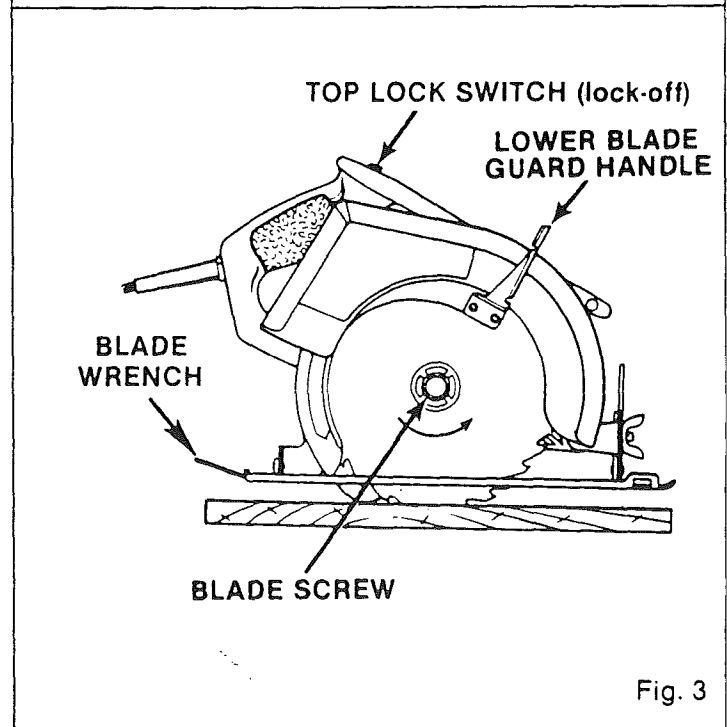

Fig. 3
3. Place your saw on a piece of scrap wood as shown in figure 3 with the blade teeth embedded in the wood.